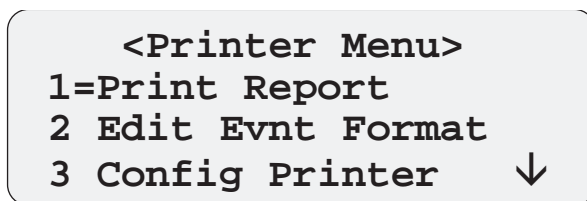

Figure 4-12 Print Menu Items
3. Press **6** for the <Printer Menu> (Figure 4-12).
- Press **6** for the <Printer Menu> (Figure 4-12).
3. Press **6** for the <Print> menu (Figure 4-12).